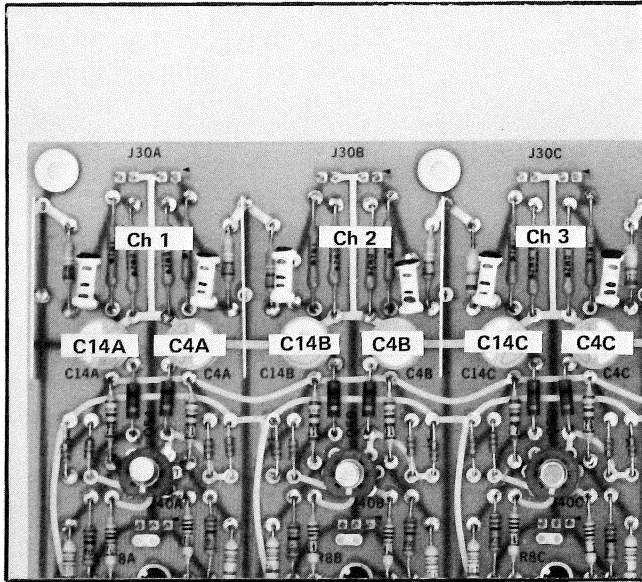

Fig. 5-5. High Frequency Compensation adjustments.
e. Adjust C4A for optimum displayed square wave (use an insulated screwdriver). See Fig. 5-5 for location of adjustments.